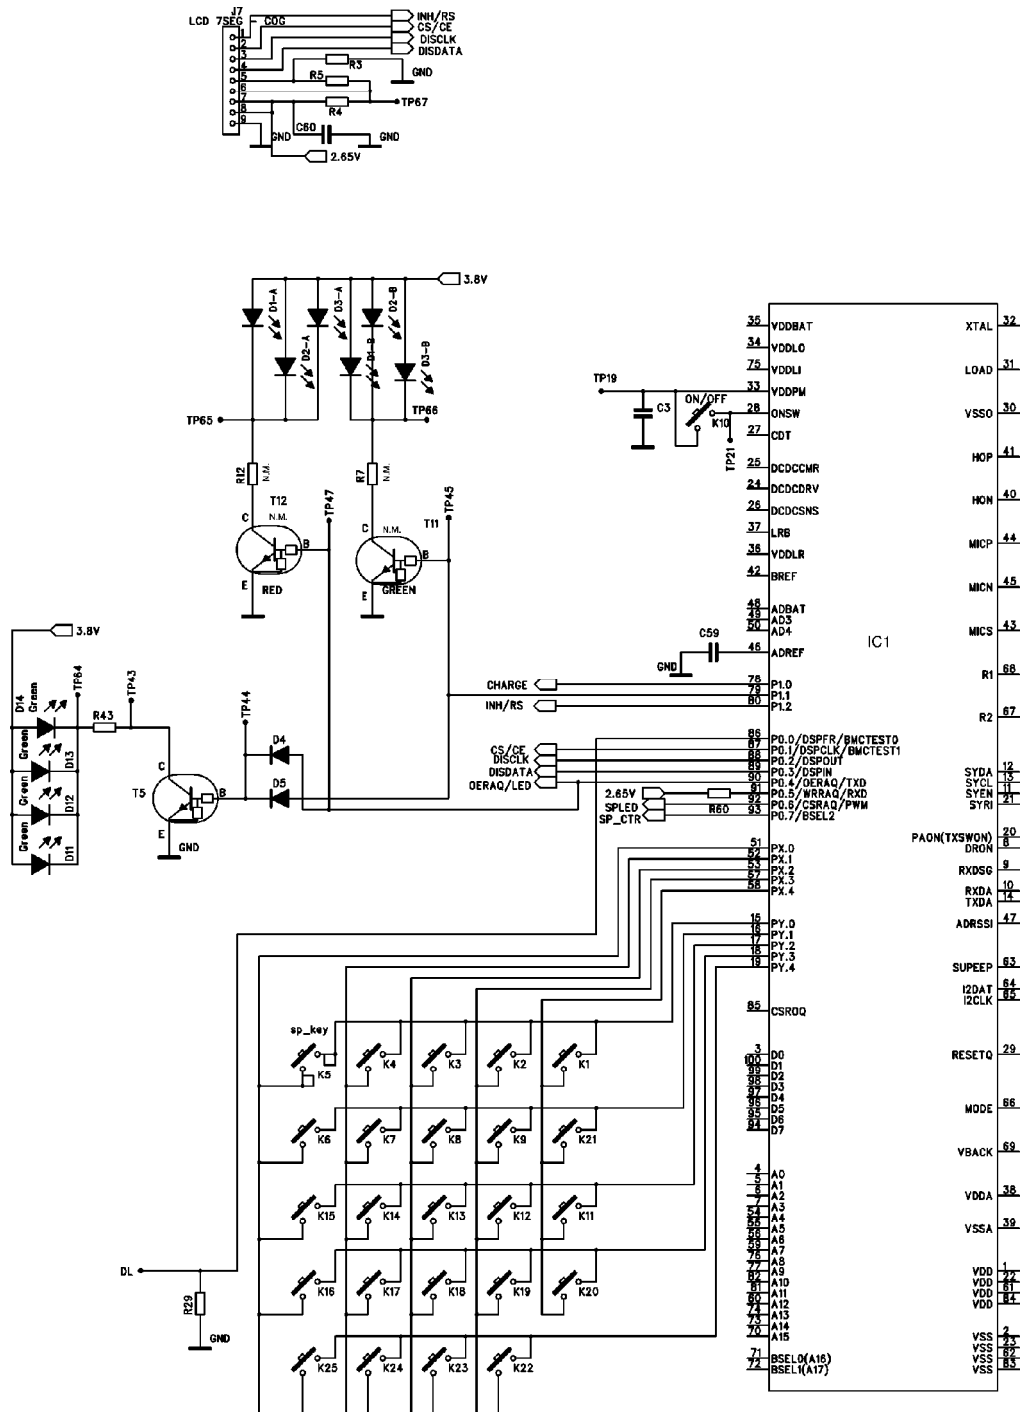

Fig. 26
6.1.11. LCD DISPLAY, AND DISPLAY DRIVER (SEE Fig. 26)